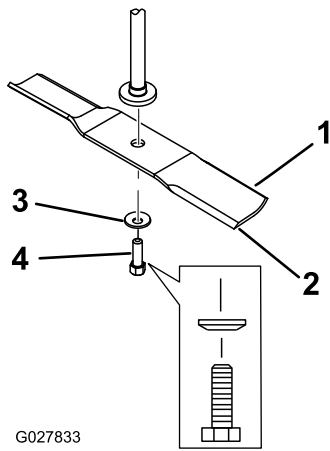

Figure 63
2. Remove the blade bolt, curved washer, and blade from the spindle shaft (Figure 63).
- Install the blade onto the spindle shaft (Figure 63).
- Install the curved washer (cupped side toward the blade) and the blade bolt (Figure 63).